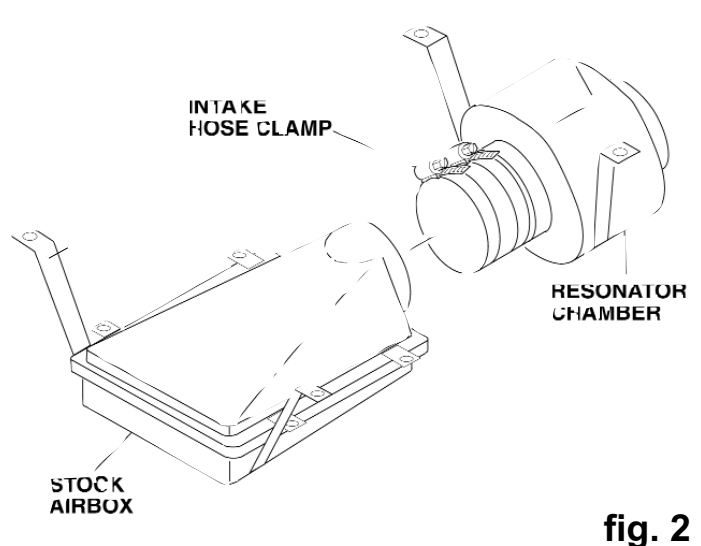

fig. 2
- 3) Remove the hose clamp on the airbox side of the resonator chamber and separate it from the airbox. (see fig. 2)